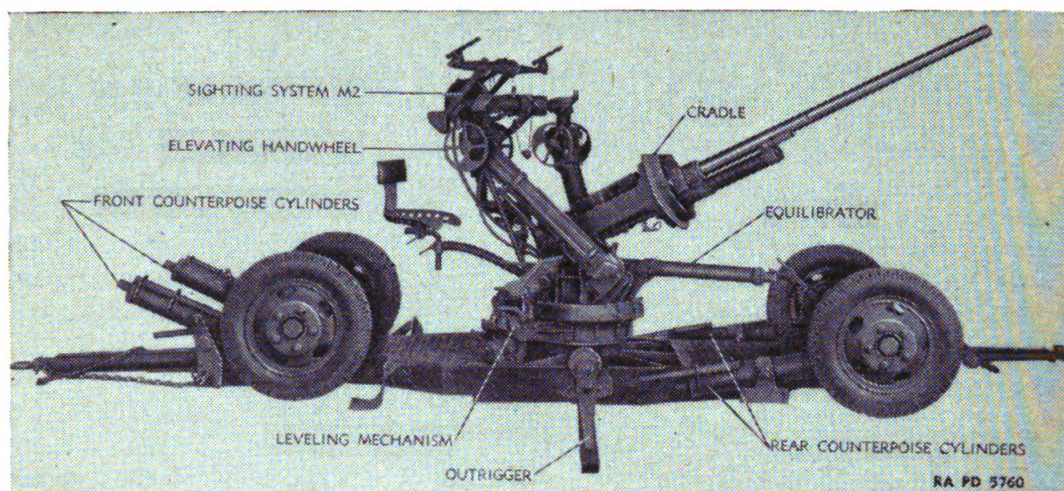

FIGURE 24.—37-mm AA gun carriage M3 in firing position.
**23. Leveling mechanism** (fig. 24).—The leveling mechanism is provided for placing the top carriage in a horizontal plane for firing. Two handwheels are provided for making this adjustment and two leveling vials for noting the level position of the top carriage. The motion of the leveling mechanism operates through a range of 10°.
**24. Elevating mechanism.**—*a. M3 and M3E1 carriages.*—The elevating mechanisms of these carriages are the upright posts to the right of the cradle. Two handwheels (fig. 24) are provided for elevating or depressing the gun and cradle. By sliding the handwheels laterally along their axis either a fast or slow motion can be obtained.
**26. Equilibrator mechanism** (fig. 24).—The equilibrator counterbalances the handwheel load when elevating or depressing the gun and cradle. The equilibrators of these carriages are spring operated. Rods are used to connect the equilibrators of the M3 and M3E1 carriages to the cradles, whereas a chain is used for the M3A1 carriage. When the gun is lowered the equilibrator spring is compressed and when elevated, the spring is extended. Adjustment of the equilibrator mechanism is possible by means of two adjusting nuts made available by removing the front cap of the equilibrator.